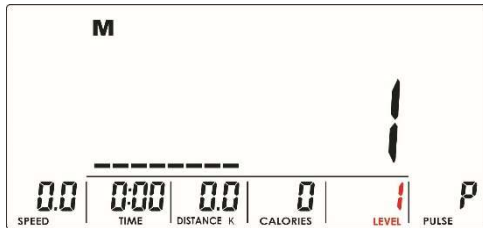

Fig. 04
2. Use the UP or DOWN buttons to change the resistance LEVEL. Level 1 is set by default (Fig. 04).